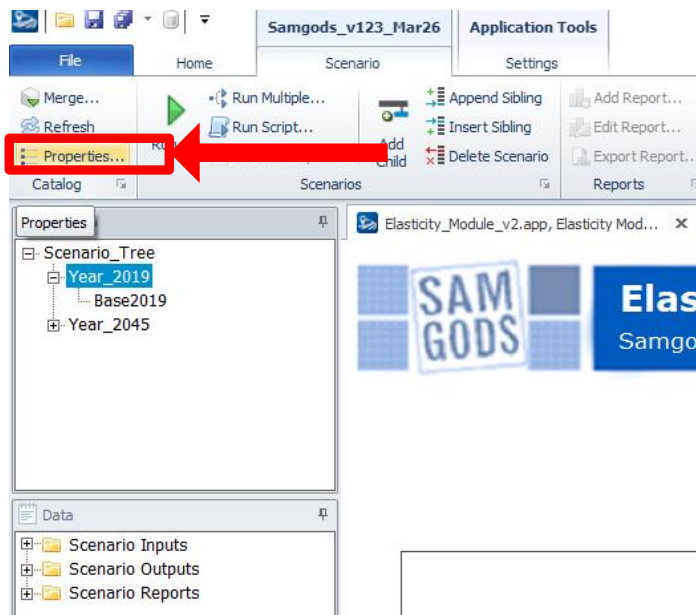

Figure 45 How to access “Catalog Properties”
- Select “Properties” on the menu bar under section “Scenario” (see Figure 45)